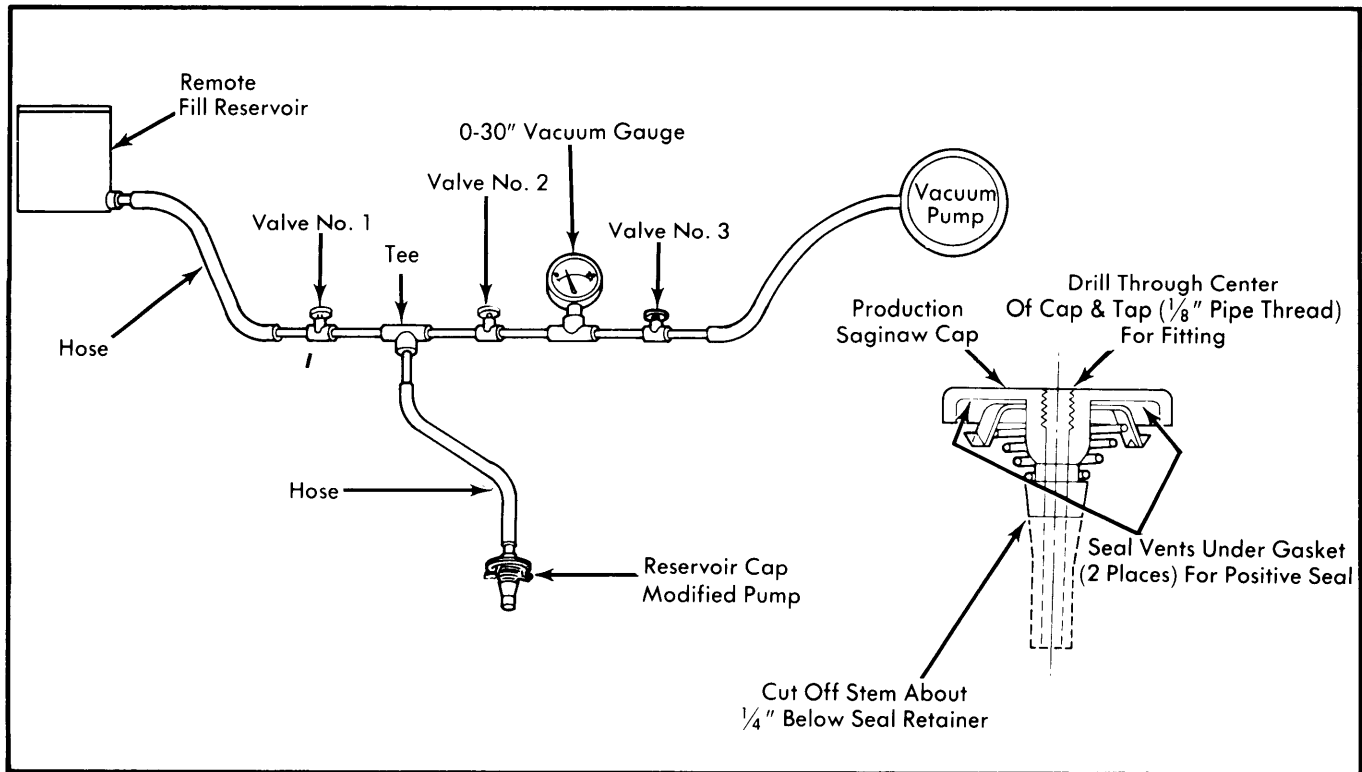

Fig. 2 Vacuum Fill System
**Vacuum Fill Process** – 1) This procedure is used primarily for vehicles that have hydro-boost brake system. System should be used whenever pump, gear, or hydro-boost is removed, serviced and reinstalled into hydraulic system. To perform this operation, assemble vacuum fill system as shown in Fig. 2. On Saginaw pumps, a modified cap should be constructed as shown. On Ford pumps, the air evacuation tool may be used for the filler cap. In place of vacuum pump, intake manifold vacuum source from another vehicle may be used.